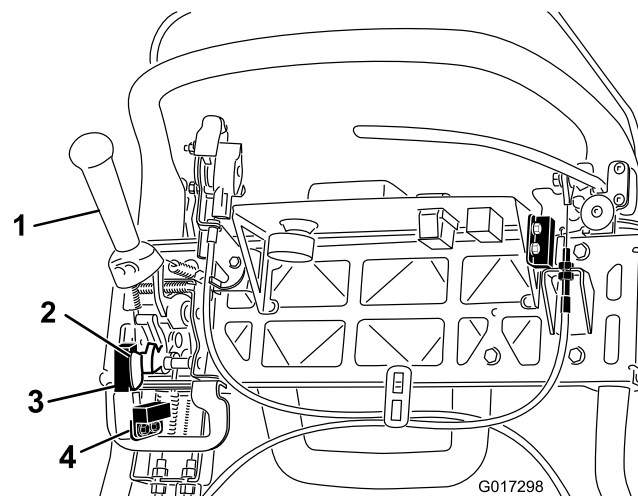

Figure 38
4. Loosen the interlock switch mounting fasteners (Figure 38).
5. Place a 0.062 inch (1.6 mm) thick shim between the traction lever and the interlock switch (Figure 38).
4. Loosen the mow sensor mounting fasteners (Figure 38).
5. Place a 1.6 mm (0.062 inch) thick shim between the mow sensor flag and the mow sensor (Figure 38).